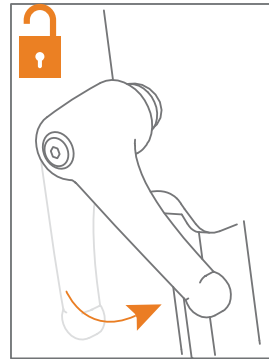

Figure 43: Loosen the adjustment handles.
- d. Loosen the adjustment handles anticlockwise **(Figure 43)** and turn the handles around via the outside, until they are pointing towards the back **(Figure 44)**. Adjust the height for the person pushing the electric wheelchair and turn the adjustment handles clockwise to tighten **(Figure 45)**. See **Adjusting the height for correct posture**.